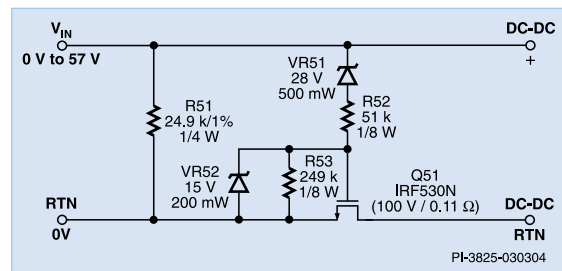

Figure 3. PoE Class 0 Interface Circuit Using a MOSFET Pass-Switch.
**Turn-on phase:** After the classification phase, the PSE continues to ramp the input voltage up to 30 V, when the under-voltage lockout (UVLO) circuit is released and the PD is allowed to power up. Soft-start circuitry is required to limit current drawn from the PSE. A typical under-voltage lockout circuit is shown in Figure 3.